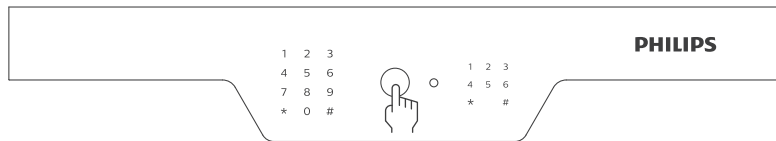

Figure 2
1. Open safe door and press "🔒" on the battery compartment. After hearing a voice prompt "Please enter fingerprint or PIN code", enter your fingerprint as shown in Figure 2. A voice prompt "Fingerprint entering succeeded." indicates successful operation. If the entering fails, there will be a voice prompt "Fingerprint entering failed". The system will automatically exit if there is no entering in 8 seconds.